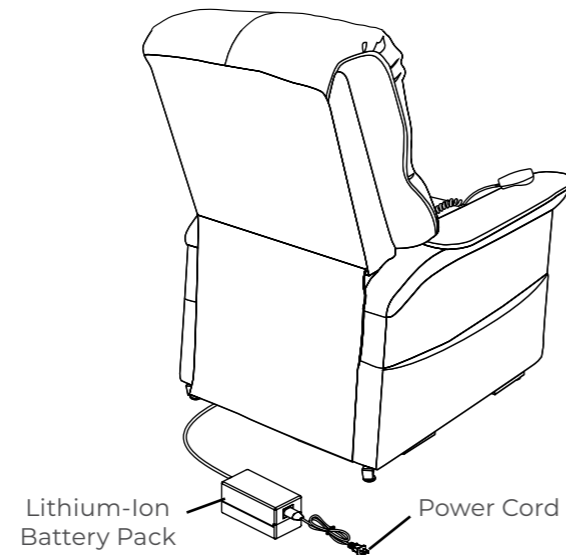
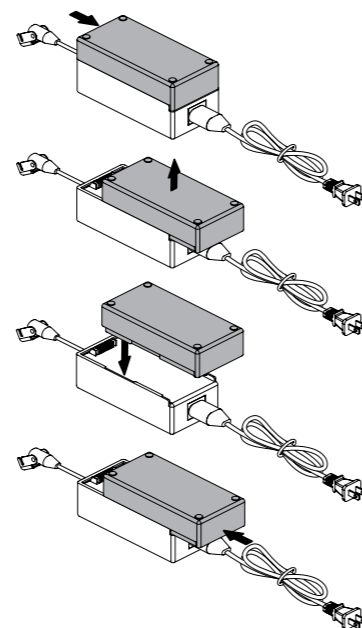

Figure 4.2.2 Lift Chair Battery Back Up Location
Figure 4.2.3 Lithium-ion Battery Replacement
Follow these steps to replace the lithium-ion battery pack batteries (See Figure 4.2.2 and Figure 4.2.3):
5. Place the new lithium-ion battery on top of the external transformer with the securement grooves toward the external transformer. (Figure 4.2.3)